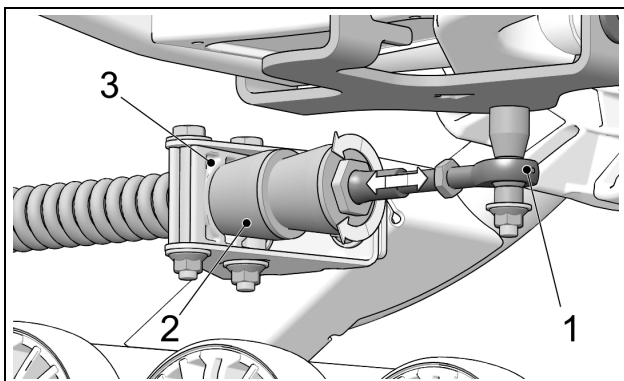

Figure 17
- Turn stabilizing arm nut to adjust length of rod end (1) and get rubber cone (2) to apply light pressure on anti-rotation retainer (3). Figure 17.